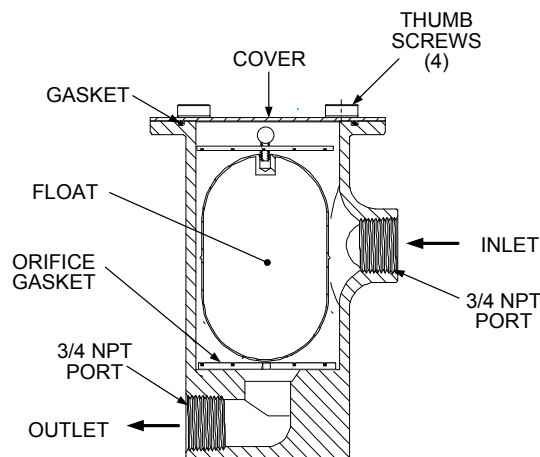

Figure 7.5
2. Remove the connections on the inlet and outlet sides of the condensate trap shown in Figure 7.5.
3. Loosen the four (4) thumbscrews securing the cover on the condensate trap. Remove the cover.